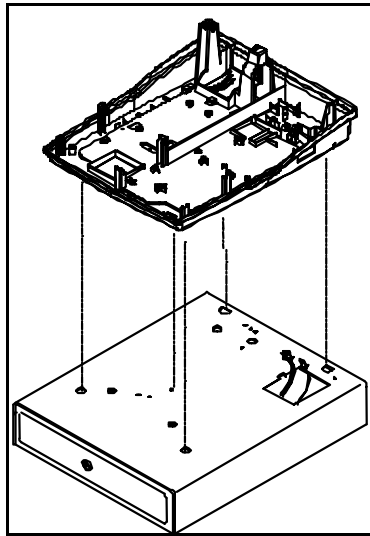

Figure 3-5. Drawer Installation
1. Position the Lower Case on top of the Drawer as shown in Figure 3-5.